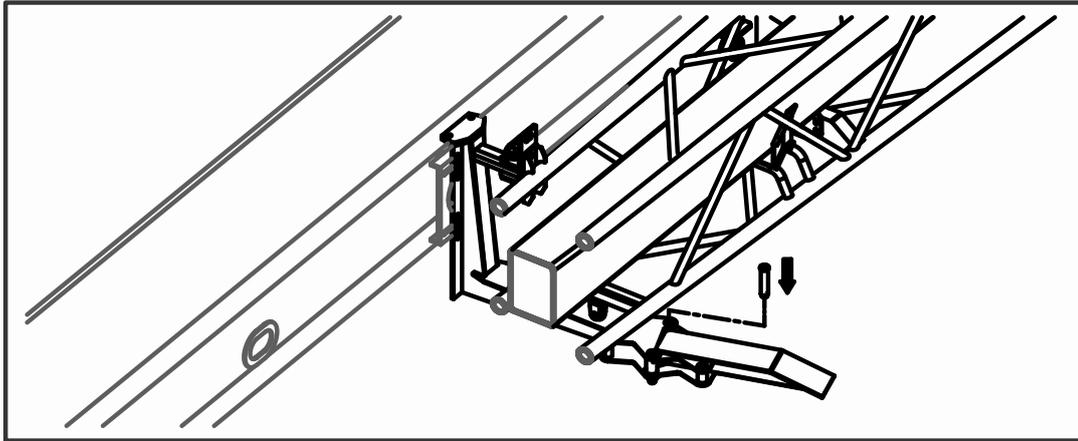

Fig.05-02
- c) Remove inserted pin. Unfold the folded adaptor and secure it with the inserted pin. See Fig.05-02;